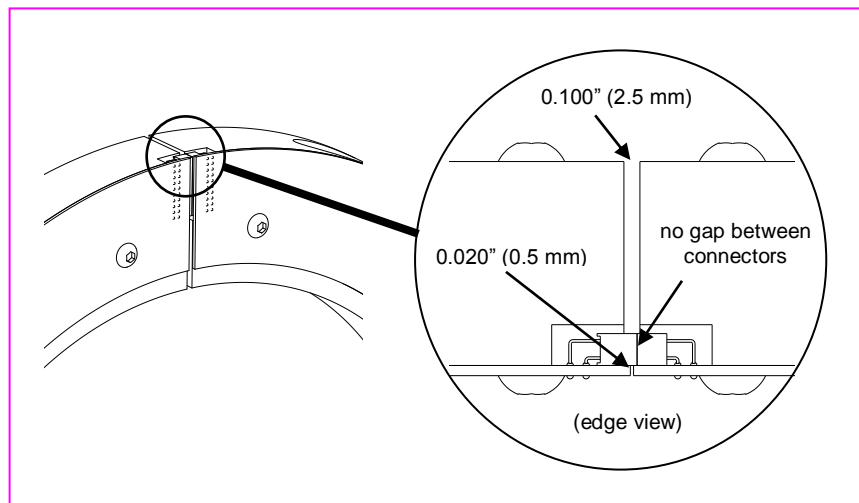
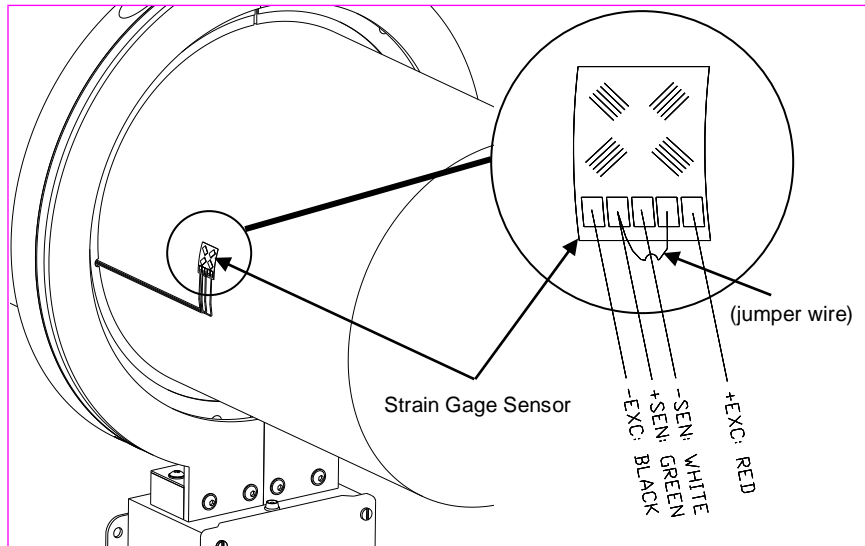

Figure 9 - Correct Collar Gap Spacing
Figure 10 - Strain Gage Connections
2. Remove large bolts from Rotating Collar if necessary to separate parts. Apply anti-seize compound (provided) to the bolt threads. Reassemble collar on shaft adjacent to gage with ribbon cable from collar leading towards gage. (Refer to Figure 1 on page 3 or Figure 10 on page 20.) Make certain that connectors are properly aligned. Install opposing collar bolts from opposite directions to maintain balance. Tighten alternate bolts evenly until gap between collar halves is .100" (2.5mm) at all junctions. (See Figure 9 below.)
4. Securely mount Master Control Unit to machine or mounting bracket (not provided) so that the back surface of the Collar aligns with the back edge of the Mounting Block. (Refer to Figure 1 on page 3 or Figure 10 on page 20.) Additional support for the Power Coil may be required depending on the size and application; mounting tabs are incorporated into the larger Power Coil designs and brackets are included.
- Trim ribbon cable from Rotating Collar to length and retain the star bridge. (The star bridge has a built-in led that may be used to troubleshoot future errors.) Connect (solder) cable to sensor. (Refer to Figure 10 below.) Note: Keep ribbon cable as short as practical (6 to 8 inches typical) to avoid unwanted electrical noise. For long cable runs consider using shielded cable. Secure ribbon cable to shaft using adhesive or fiberglass tape or more permanent methods as appropriate.